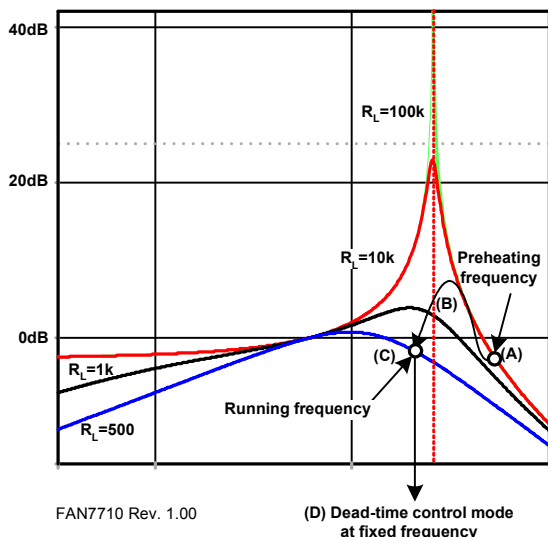

Figure 21. LCC Transfer Function in Terms of Lamp Impedance
Before the lamp is ignited, the lamp impedance is very high. Once the lamp is turned on, the lamp impedance significantly decreases. Since the resonant peak is very high due to the high-resistance of the lamp at the instant of turning on the lamp, the lamp must be driven at higher frequency than the resonant frequency, shown as (A) in Figure 21. In this mode, the current supplied by the inverter mainly flows through  $C_P$ .  $C_P$  connects both filaments and makes the current path to ground. As a result, the current warms up the filament for easy ignition. The amount of the current can be adjusted by controlling the oscillation frequency or changing the capacitance of  $C_P$ . The driving frequency,  $f_{PRE}$ , is called preheating frequency and is derived by:
After the warm-up, the FAN7710 decreases the frequency, shown as (B) of Figure 21. This action increases the voltage of the lamp and helps the fluorescent lamp ignite. The ignition frequency is described as a function of CPH voltage, as follows:
Finally, the lamp is driven at a fixed frequency by an external resistor,  $R_T$ , shown as (C) in Figure 21. If  $V_{DD}$  is higher than  $V_{DDTH(ST+)}$  and UVLO is released, the voltage of the RT pin is regulated to 4V. This voltage adjusts the oscillator's control current according to the resistance of  $R_T$ . Because this current and an internal capacitor set the oscillation frequency, the FAN7710 does not need any external capacitors.
The oscillation frequency is not changed even in the active ZVS mode, shown as (D) in Figure 21. The dead time is varied according to resonant tank characteristics.